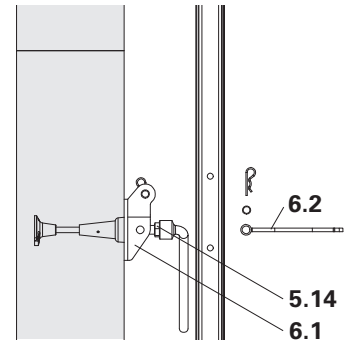

Fig. B1.34
4. Fix Bracing Shoe Wall CB M24 (6.1) to the cone using Bolt M24 x 70 (5.14) SW 14, after the bolts have been removed from the tension plate (6.2). Re-insert tension plate through the platform post and re-bolt in the bracing shoe. (Fig. B1.34)
5. Unroll tension belt (7.1) from ratchet. (Fig. B1.34)
4. Fix Bracing Shoe Wall CB M24 (6.1) to the cone using Bolt M24 x 70 (5.14) SW 36, after the bolts have been removed from the tension plate (6.2). Re-insert tension plate through the platform post and re-bolt in the bracing shoe. (Fig. B1.34)